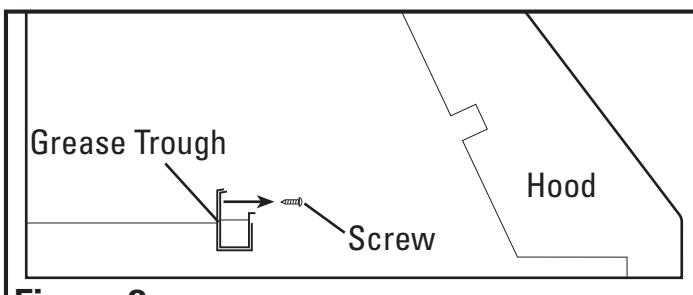

Figure 2
3. Remove the two screws securing the grease trough in place. These have been installed for protection during shipping (**Figure 2**).